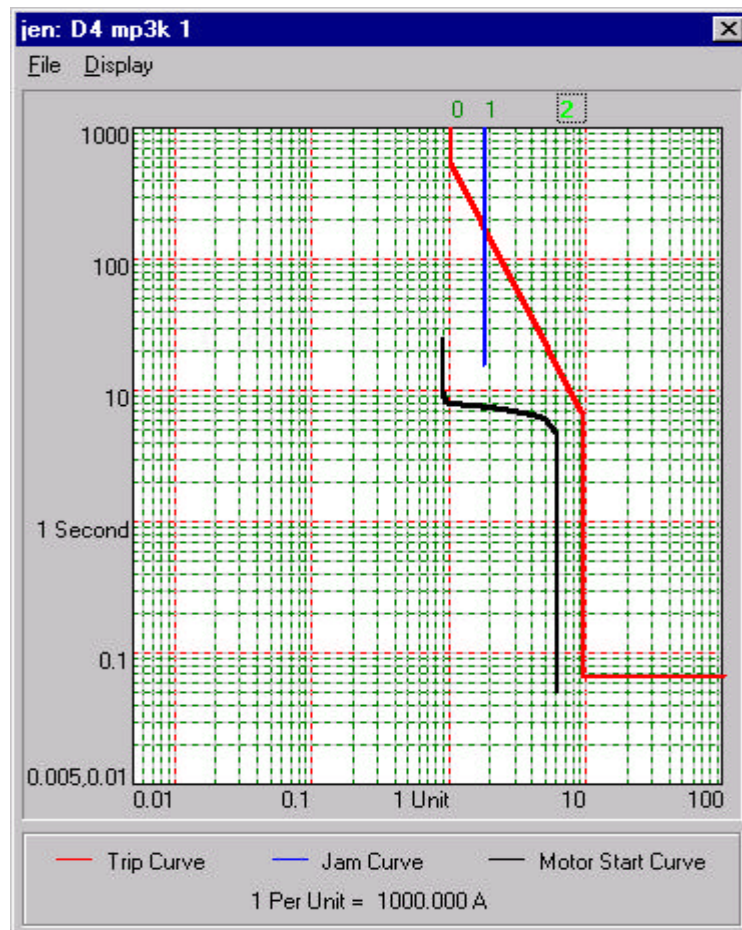

Figure 5. Motor Start Profile from C-H PowerPort and PowerNet Software
- **START** records information on the last 4 starts in nonvolatile memory. Detailed information about the motor starting currents, unbalanced conditions and run transition data is logged with date and time. The MP-3000 also records a Motor Start Profile record for each start that can be viewed with software from Eaton. Figure 5 is an example of the Start Profile along with the MP-3000 Overload, JAM and IOC trip characteristics overlade for application review.